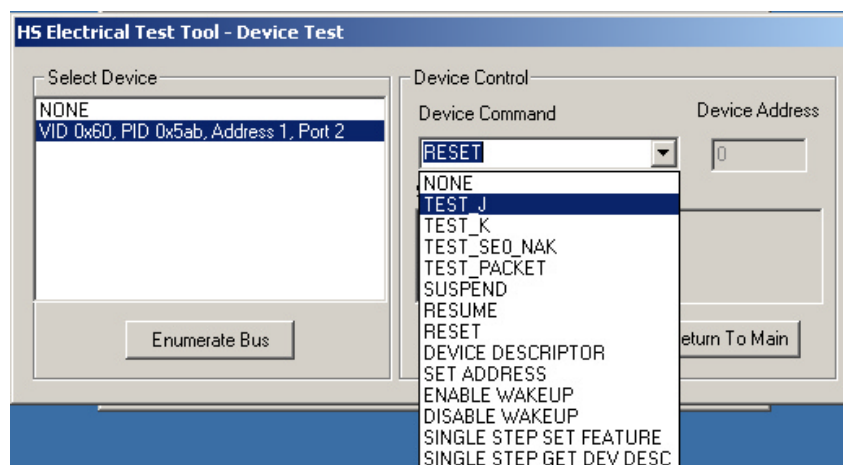

Figure 29. Device TEST\_J
4. On the HS Electrical Test Tool - Device Test menu, select TEST\_J from the Device Command drop down menu (Figure 29).